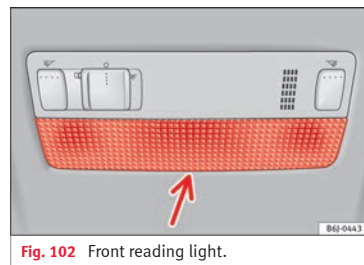

Fig. 102 Front reading light.
- Insert a fine screwdriver between the casing and the glass » **Fig. 102**.